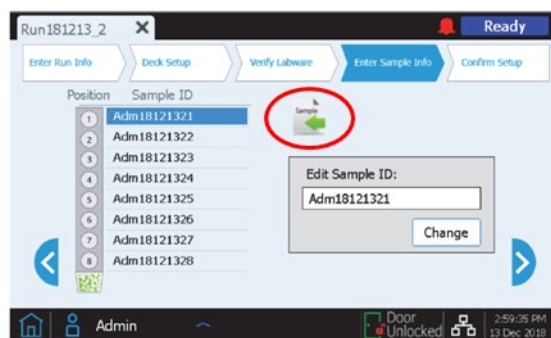

Figure 18. Edit Sample Info screen of the Magnis NGS Prep System, with a circle highlighting the load samples button.
- ◇ When configuring the assay, on the *Enter Sample Info* screen, press the load samples button (highlighted with a circle in Figure 18).